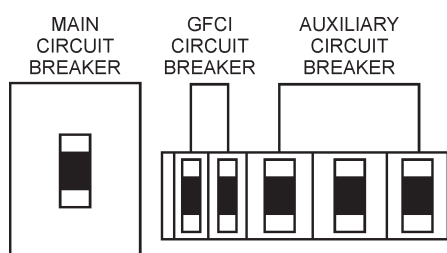

Figure 35. Main, Aux. and GFCI Circuit Breakers (OFF)
1. Place the **main, G.F.C.I., and aux.** circuit breakers (Figure 35) in the **OFF** position prior to starting the engine.
1. Place the **MAIN, GFCI and LOAD** circuit breakers as shown in Figure 35 to the **OFF** position.